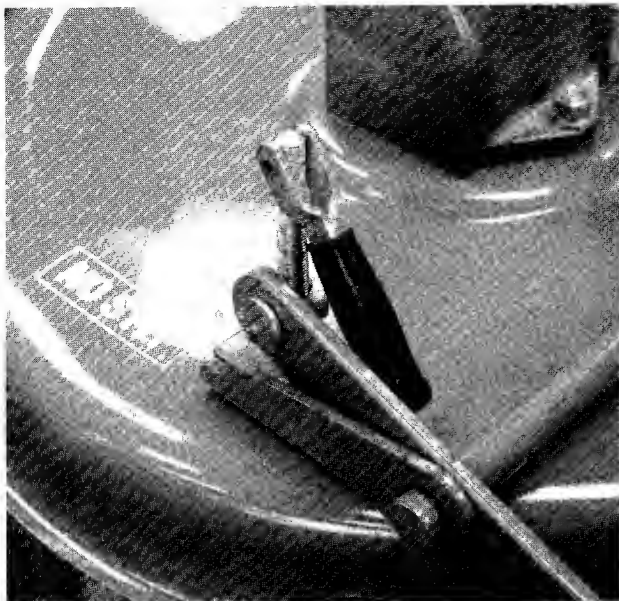

FIGURE 11. ADJUSTMENT LOCKED
j. **Cutting Height.** Turn the cutting height arm, located on the L.H. side of the cutting deck, clockwise to lower the cutting height. The height of cut can be adjusted from $\frac{5}{8}$ " to 2 $\frac{5}{8}$ ". See figure 10. To prevent the cutting height arm from unscrewing, lock it as shown in figure 11.